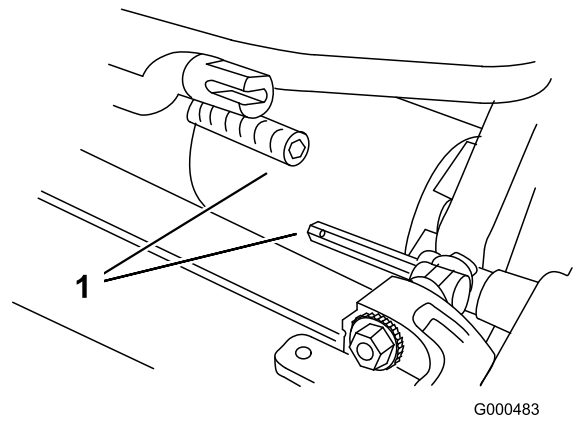

Figure 4
3. Push the cutting unit under the traction unit and then to the left to engage the transmission coupling (Figure 4).